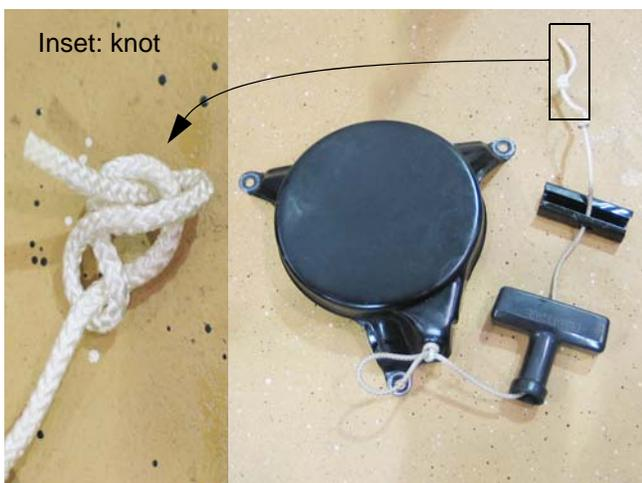

Figure 6.7
7. Install the handle and handle insert on the loose end of the rope, again using a double half-hitch. See Figure 6.7.